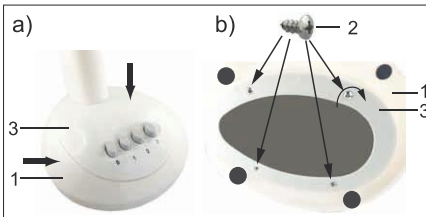

Fig. 13: Mounting base
1. Insert the base (3) with the motor block and the fan speed adjustment push buttons into the base (1), Fig. 13 a).